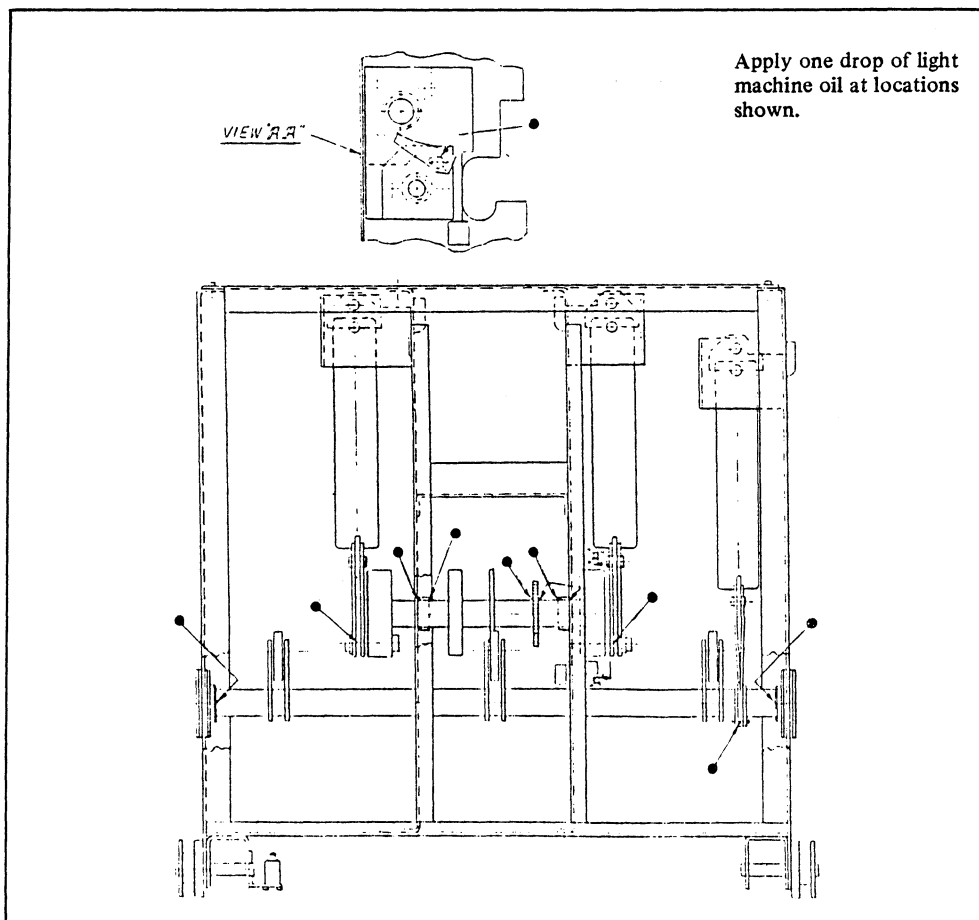

Fig. 6.1 Lubrication Points
All parts that require lubrication have been lubricated during the assembly with molybdenum disulphide grease. Westinghouse M No. 53701QB. Over a period of time, this lubricant may be pushed out of the way or degrade. Proper lubrication at regular intervals is essential for maintaining the reliable performance of the mechanism. Once a year or every 2000 operations (1000 operations for 3000 amp breaker) whichever comes first, the breaker should be relubricated. The locations shown in Figure 6.1 should be lubricated with a drop of light machine oil.
-Pole Shaft - Fig. 6.1 (Jammed)